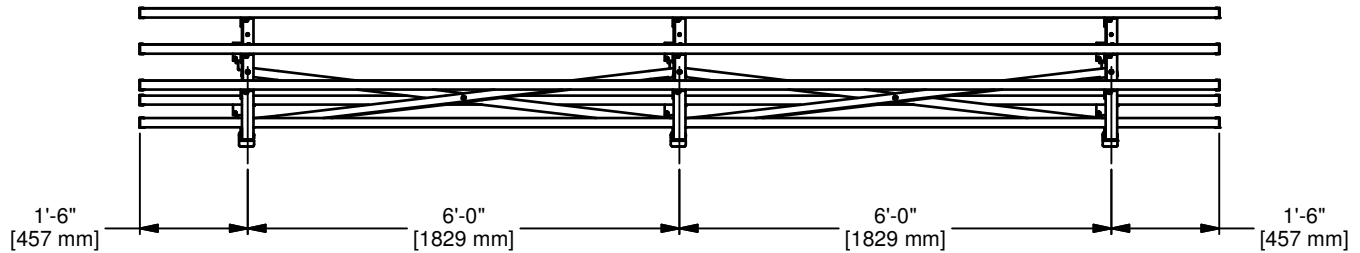

Figure 7
6. Before tightening the foot plank bolts, align all the planks and make sure the planks are centered on the assembled frame. See Figure 7 for reference dimensions.